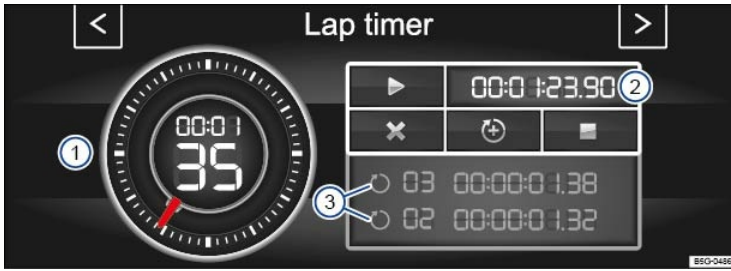

Fig. 23 In the Infotainment system: Performance Monitor lap timer/stopwatch.
Key to ⇒ Fig. 23 and ⇒ Fig. 24 :
The stopwatch has two different measuring functions. The stopwatch in the outer ring of the display (red needle) ⇒ Fig. 23① can measure up to 60 seconds. The digital display in the center of the stopwatch shows the elapsed hours, minutes, and seconds. The seconds appear as large numbers.
The digital display on the right side ⇒ Fig. 23② shows the current lap split time in 1/100 second intervals. If the lap timer is not being used to track split times, both digital displays show the same time.
Function	Action ⇒ Fig. 23 and ⇒ Fig. 24
Show the intermediate time in the stopwatch display:	<p>Tap button  ⑨.</p> <p>The intermediate time (the moment the button is pressed) is shown for a few seconds in the center of the stopwatch ⇒ Fig. 23①. After the brief pause, the current time resumes in the center of the stopwatch.</p>